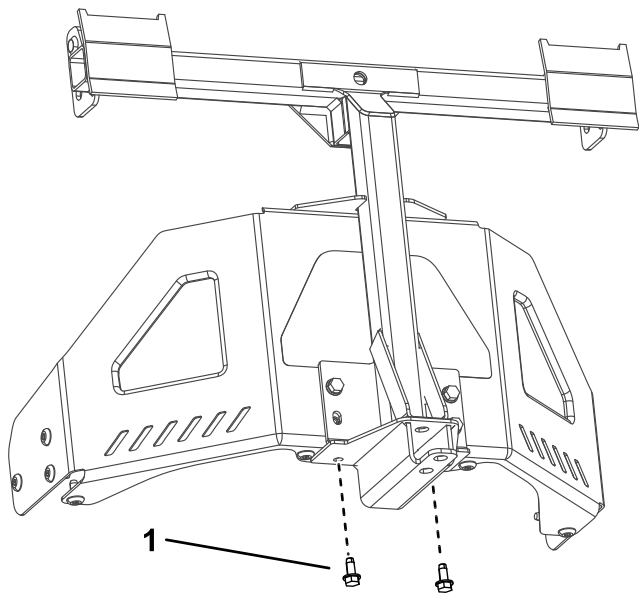

Figure 11
3. Secure the pivot frame to the bottom of the machine frame using 2 self-tapping screws (5/16 x 3/4 inch) as shown in Figure 11.